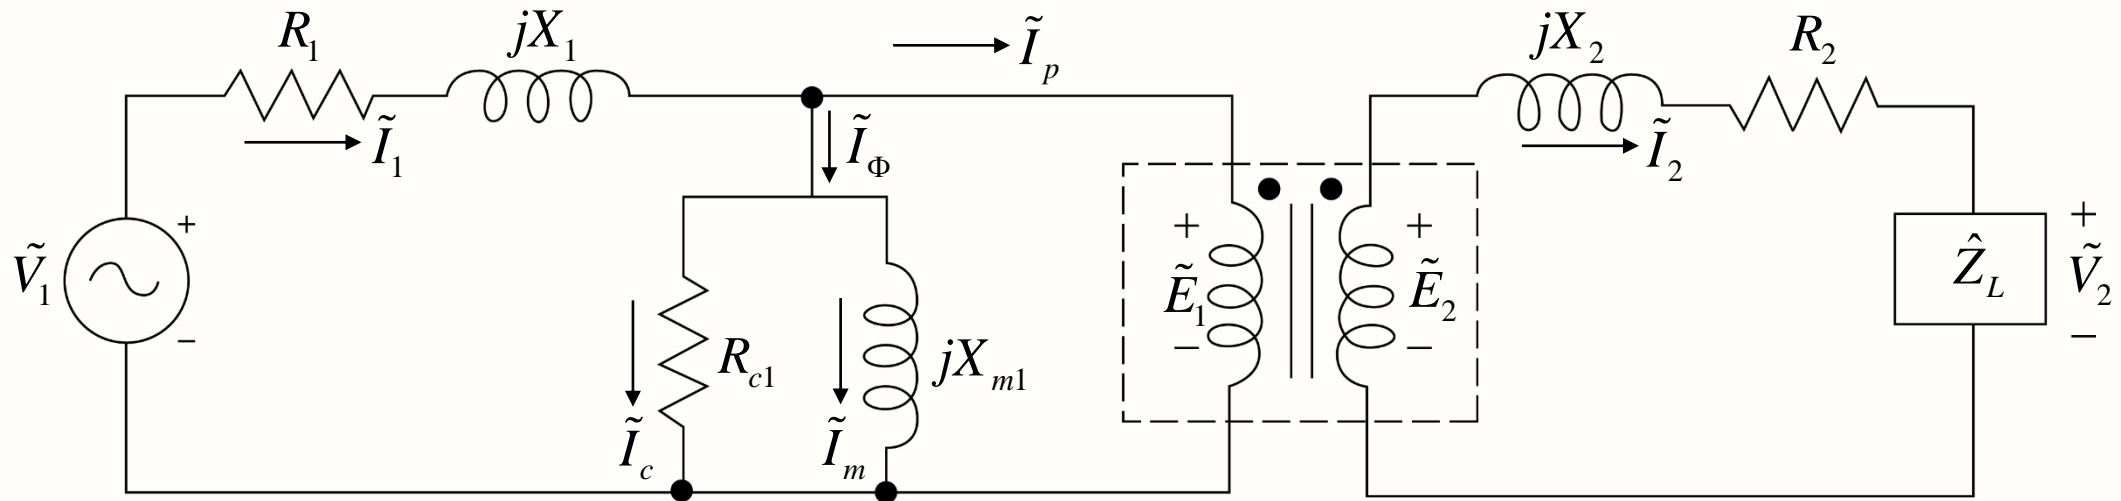

Fig. 21. Exact equivalent circuit of a transformer.
- ❖ More practically, because of the relative values of the series and the shunt components, it introduces very small error if we move the shunt branch from the middle position to the input side, as indicated in Fig. 21.